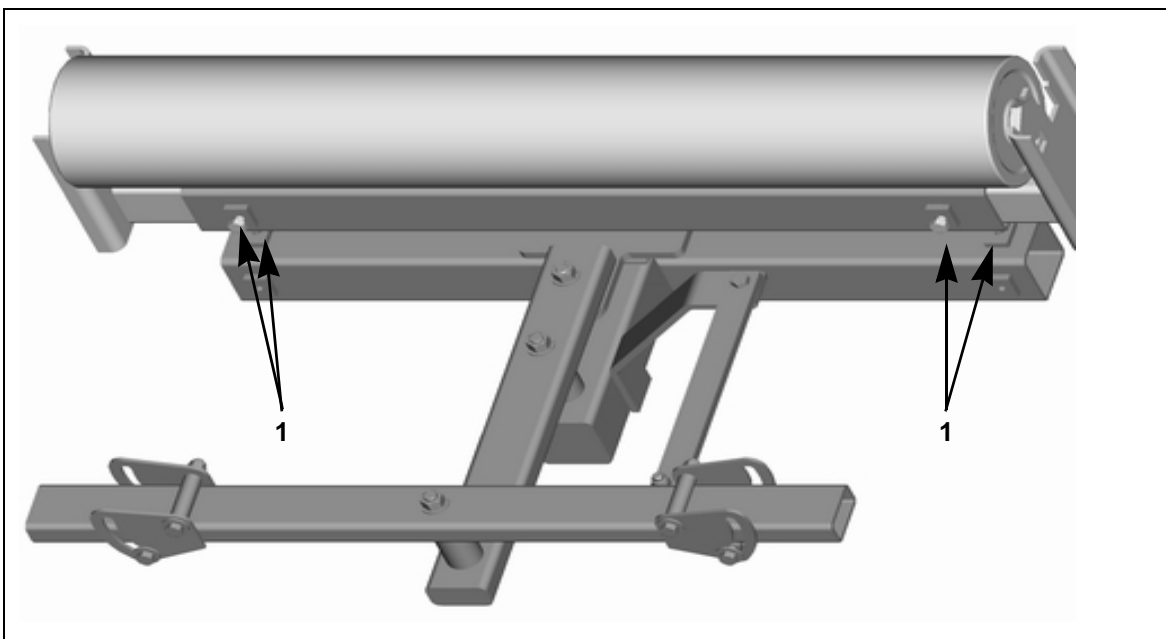

Fig. 2: Centring and securing the return roller
3. Centre the roller on the tracker and secure it with 4 screws (1, Fig. 2).